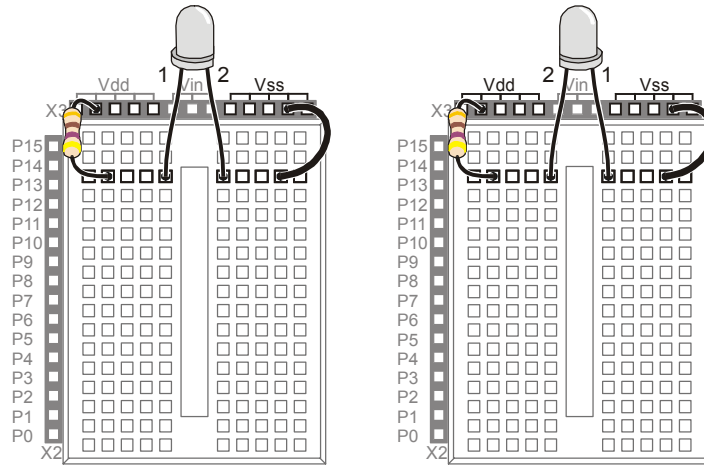

Figure 2-18
Figure 2-18 shows the manual test for the bi-color LED.
- √ Build the circuit shown on the left side of Figure 2-18.
- √ Modify your circuit so that it matches the right side of Figure 2-18.